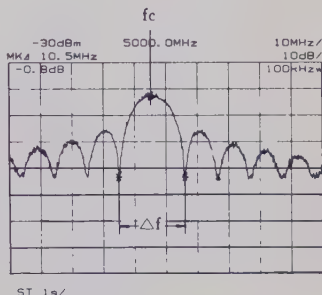

Fig. 3-20 Measurement of τ
Step 15 Adjust the Δ marker to the lowest level of an adjacent side lobe. (See Figure 3-20.)